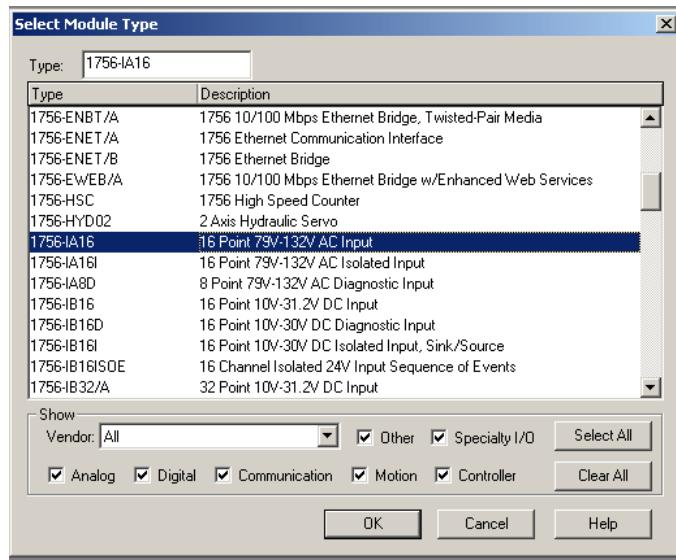

Figure 4-9 Select AC input module screen
1. Right click “I/O configuration” folder in the Controller Organizer and choose “New Module”. The window shown in Figure 4-9 will open.